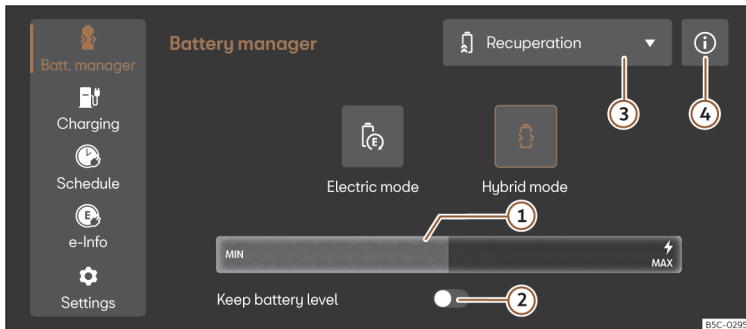

Fig. 120 In the infotainment system: Battery manager menu
- Select **Electric Mode** or **Hybrid Mode** in the infotainment system. Further information about the operating mode can be found in ① >>> **Fig. 120** ④).
Key to >>> **Fig. 120:**